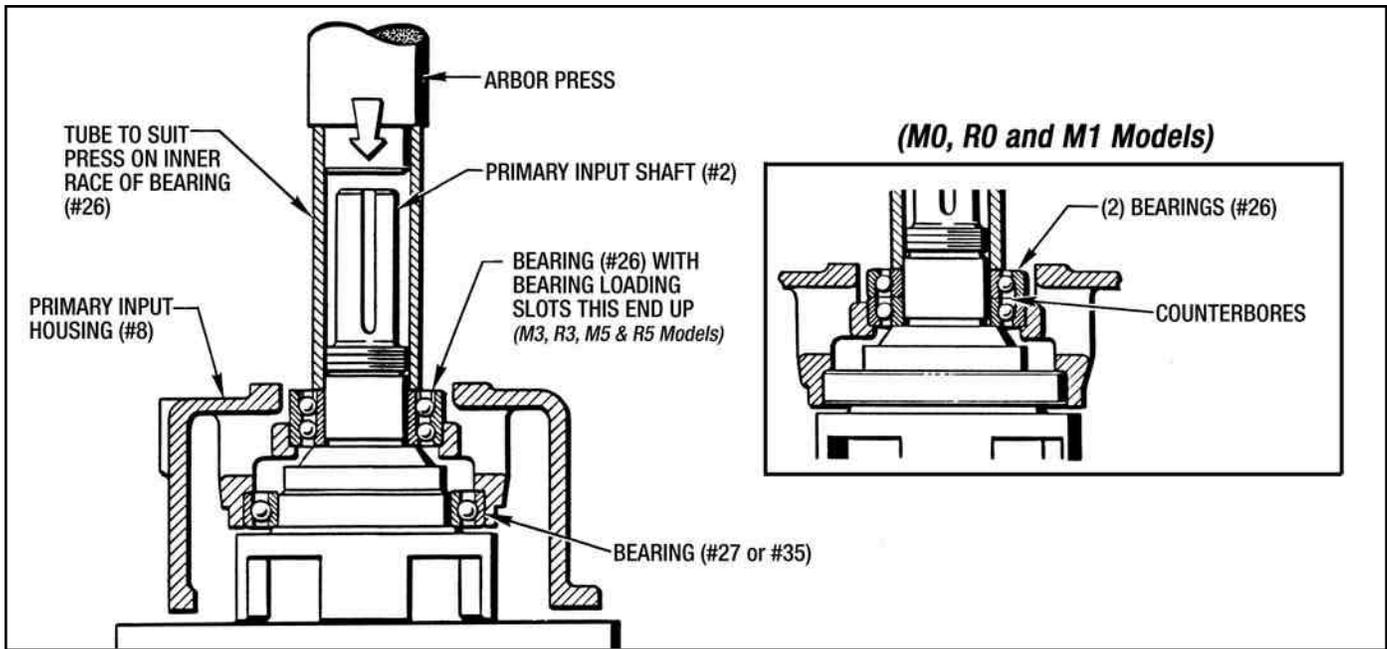

Figure 9.13 - Pressing Bearing (#26) Into Primary Input Housing
2. Set the Primary Input Shaft and Housing Sub-Assembly into an Arbor Press, as shown in Figure 9.13. Using an appropriate sized tube, press on the inner race of Bearing (#26) until it bottoms out. (Do not press on the bearing cage or outer race.)
The Bearing Loading Slots must be in the "Up" position, as shown in Figure 9.13.
The Bearing Counterbores must be positioned as shown in Figure 9.13.
- Press the Wear Sleeve (#4) onto the Input Shaft. Use a similar arbor press set-up and appropriate support tooling, as shown in Figure 9.13.